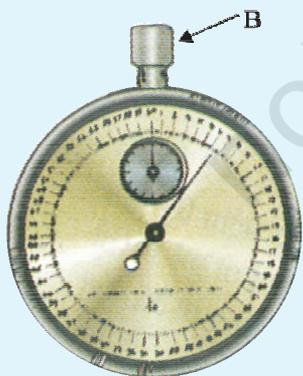

Fig.E 6.1(a): Stop - Watch
A stop-watch is a special kind of watch. It has a multipurpose knob or button (B) for start/stop/back to zero position [Fig. E 6.1(b)]. It has two circular dials, the bigger one for a longer second's hand and the other smaller one for a shorter minute's hand. The second's dial has 30 equal divisions, each division representing 0.1 second. Before using a stop-watch you should find its least count. In one rotation, the seconds hand covers 30 seconds (marked by black colour) then in the second rotation another 30 seconds are covered (marked by red colour), therefore, the least count is 0.1 second.
The least count of a stop-watch is generally about 0.1s [Fig. E 6.1(b)] while that of a stop-clock is 1s, so for more accurate measurement of time intervals in a school laboratory, a stop-watch is preferred. Digital stop-watches are also available now. These watches may be started by pressing the button and can be stopped by pressing the same button